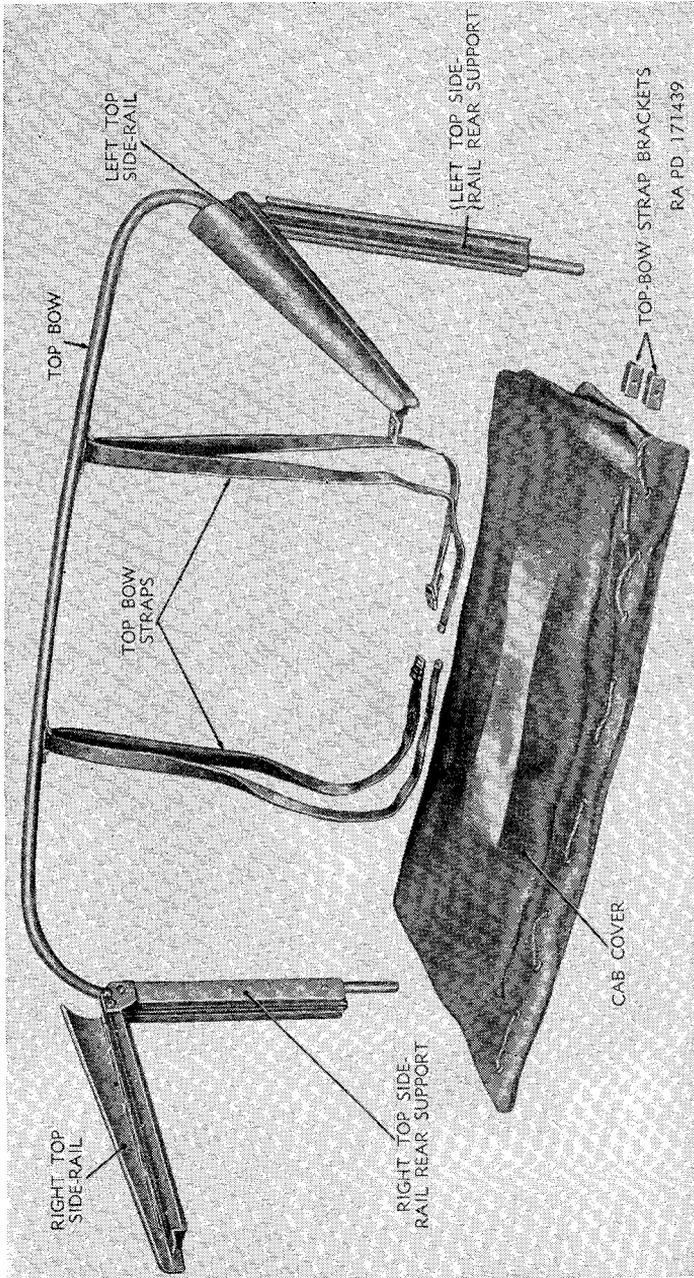

Figure 6. Items removed before installation of hard-top closure.
*c. Remove cab cover (fig. 6).* Untie lashing ropes from lashing hooks on back of cab. Disconnect cover at sides by pulling it away from side rails until metal retainers are disengaged from slots in side rails. Disconnect two straps from rear top bow to top-holding brackets on windshield frame and pull rear portion of cab cover up and out of metal retainers on rear supports. Fold cab cover forward and pull from right side of vehicle until cover is disengaged from the metal retainer on the front of the windshield top support rail.
*d. Remove top side rails (fig. 6).* Remove the cap screws from the front and rear of the right and left top side rails. Lift the side rails from the vehicle and discard.
*e. Remove top-bow strap brackets (fig. 6).* Remove the cap screw and lock washer which secure each of the brackets to the windshield. Remove the two brackets.
*f. Remove top bow (fig. 6).* Lift up on top bow, disengaging it from each of the top side-rail rear supports.
*g. Remove top side-rail rear supports (figs. 6 and 9).* Loosen the "J" bolts and "U" bolts located at the upper inside portions of the door-lock pillar. These bolts secure the tubular portion of the top side-rail rear supports. Lift the two supports from the body lower rear side panels.